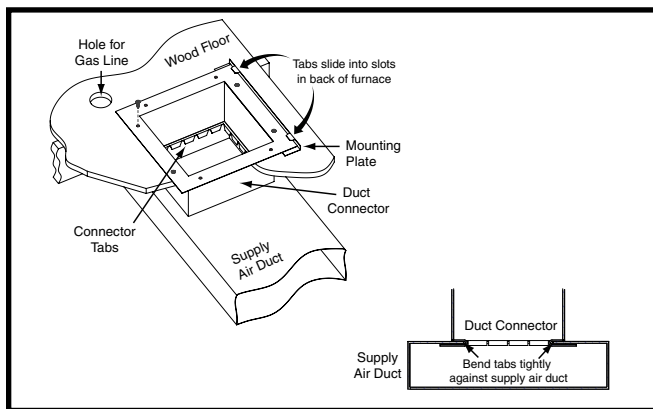

Figure 11. Finger Tabbed Duct Connector
2. Mark the cut-out area on the supply air duct by tracing around the connector tabs of the duct connector. See Figure 11 \(page 16\).
5. Install the mounting plate (Figure 11) under the back side of the duct connector. Align the screw holes in both components.
7. Bend the connector tabs on the bottom of the duct connector upwards and as tight as possible against the supply air duct. See Figure 11.